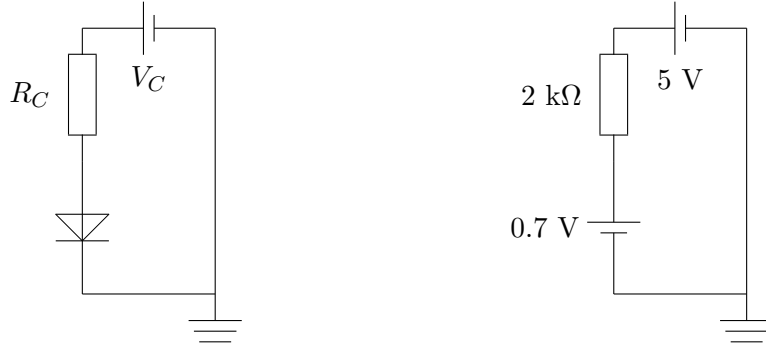

Figure 10: Left: Simplified circuit for DC analysis at the operating point. Right: Numerical values and ideal diode model substituted to the simplified circuit.
1. Circuit for DC analysis at the operating point is shown in Fig. 10. Note that the capacitors prevent undesirable DC currents from source or load from affecting the choice of operating point.
From the circuit on right of Fig. 10 we obtain $I_{DQ} = \frac{5 \text{ V} - 0.7 \text{ V}}{2 \text{ k}\Omega} \approx 2.15 \text{ mA}$.